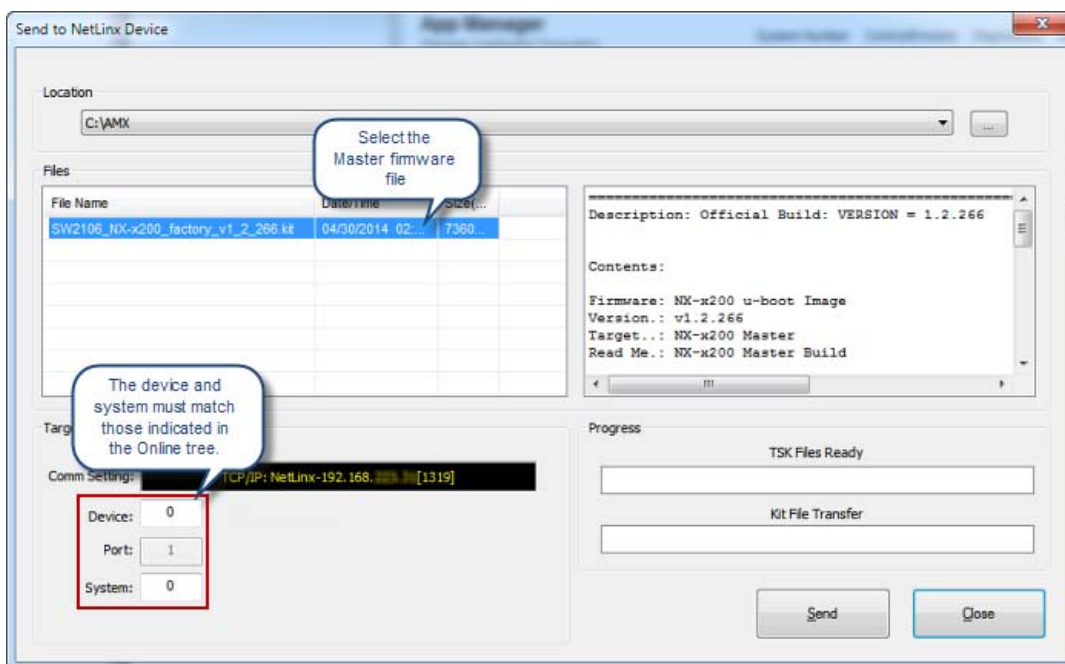

FIG. 42 Send to NetLinX Device dialog (showing on-board switcher firmware upgrade)
- Note that the *Port* field is disabled (FIG. 42).